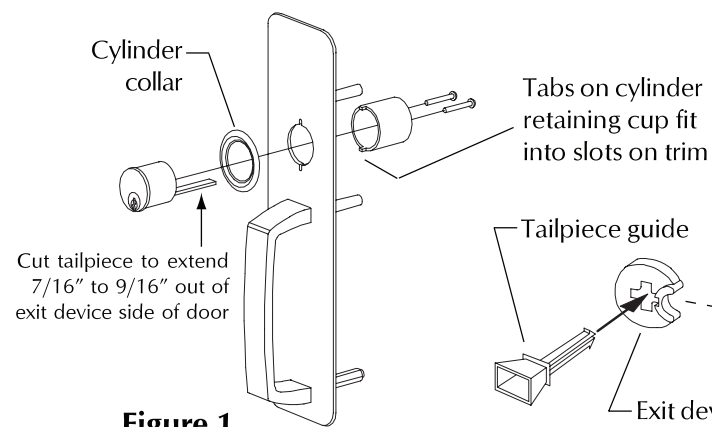
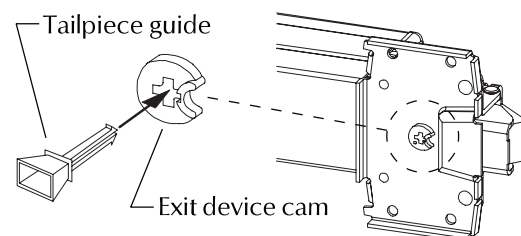

Figure 1
Figure 2
3. For NL trim only, install rim cylinder (Figure 1) and install tailpiece guide in exit device cam (Figure 2).